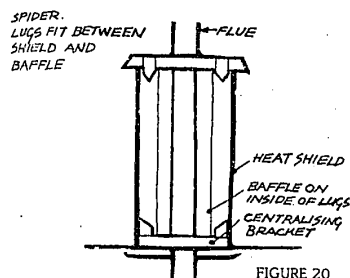

FIGURE 20
2.1.8 Lower the Baffle down the Heat Shield and centralise it on the Centralising Bracket, Figure 20.
2.1.9 The Spider may now be fitted to the assembled flue. The Spider should pass down between the Heat Shield and Baffle, Figure 20. Clamp the Spider to the flue.
2.1.8 Lower the Baffle down through the Heat Shield and centralise it on the lugs on the Centralising Bracket, Figure 20.
2.1.9 The Spider may now be placed over the top of the assembled flue. The lugs on the Spider arms should pass down between the Baffle and the Heat Shield, Figure 20. Clamp the Spider in place.